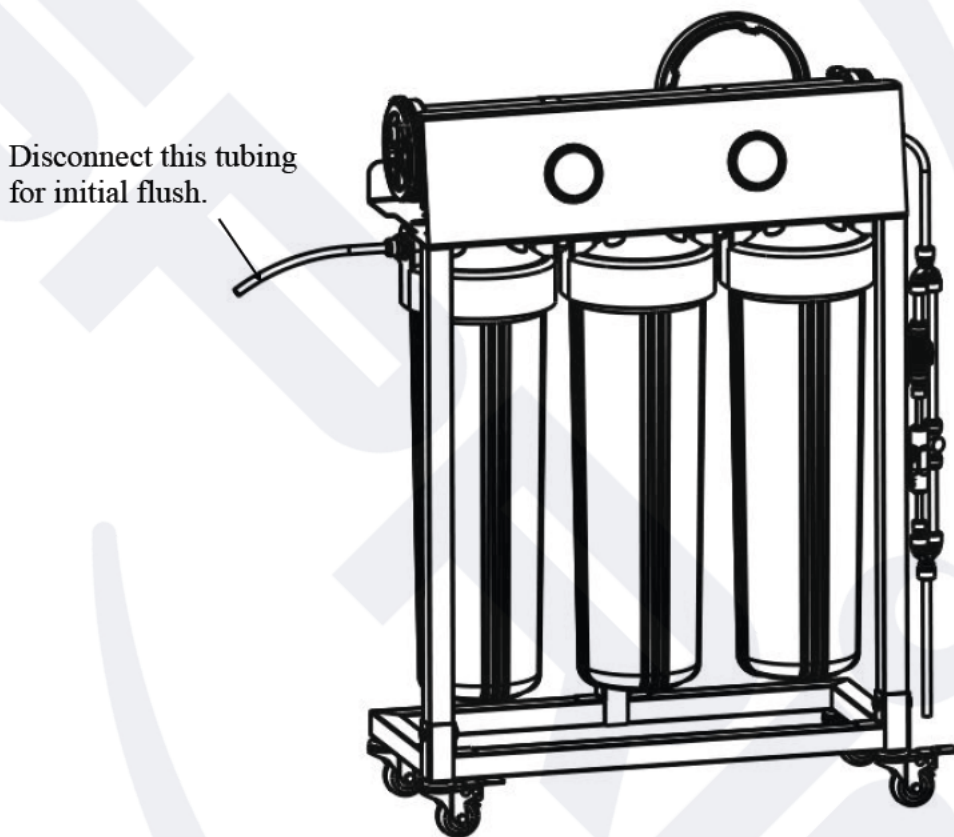

Figure 10. Flushing the System
- After all the tubing is connected, turn on the water supply and make sure the system is not leaking. Verify the ball valve on the automatic shutoff components is in the “on” position (shown in **Figure 10.**). Then keep the water running and rinse the membrane for at least 30 minutes. This process serves to kick start the membrane by rinsing off the protective solutions on the membrane’s surface. It is recommended that users manually rinse the membrane for 5 minutes at least every 3-6 months to ensure the maximum performance of the membrane.